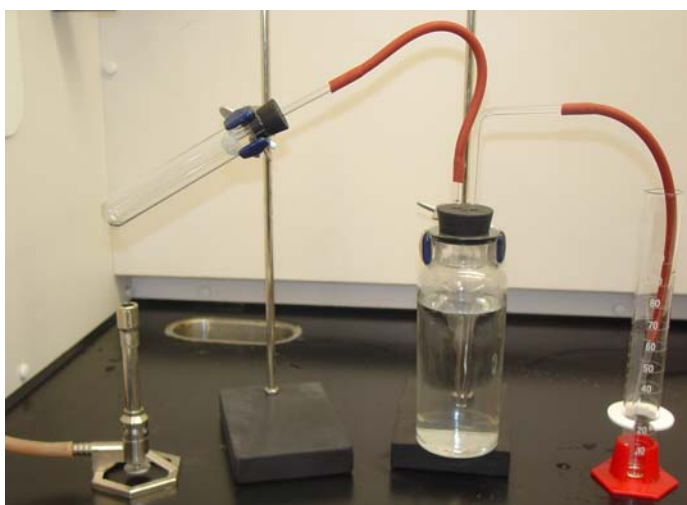

Figure 5. Setup before heating.
- Without draining the water from the end of the exit tube, carefully replace the beaker with an empty 100 mL graduated cylinder while removing the pinch clamp. If some water from the tube drains into the graduated cylinder that is fine as long as there isn't a continuous flow. Make sure the exit tube is down inside the graduated cylinder. Your setup should look like Figure 5. Have your instructor check your setup.